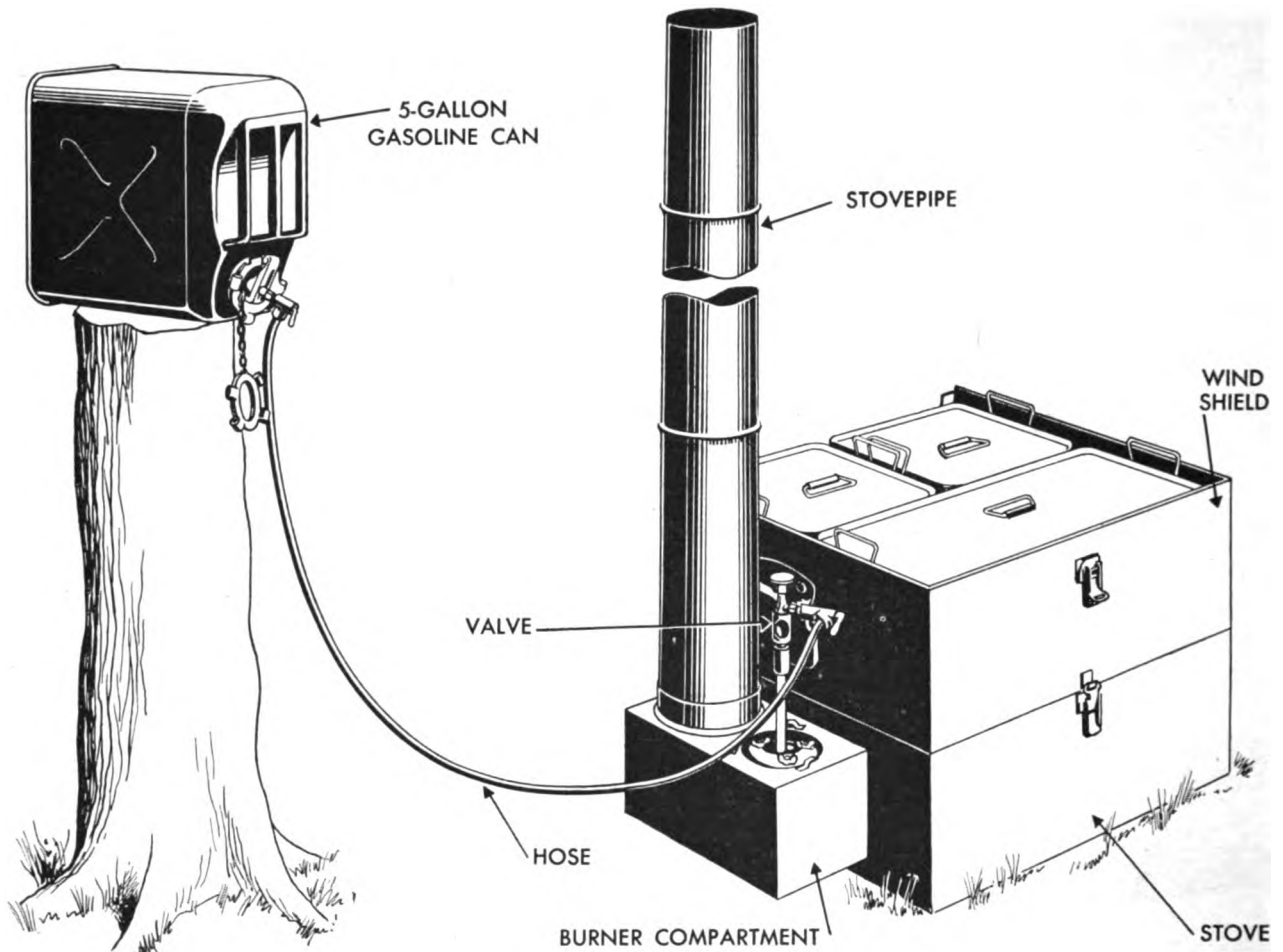

Figure 21. Outfit, cooking, small detachment (64-O-270). Fuel can is placed at higher level than stove to provide gravity-feed.
a. The small detachment cooking outfit (stock No. 64-O-270), (see fig. 21), is designed for the use of isolated detachments of troops numbering from 15 to 40. The unit, which is light and compact, may be easily carried in any vehicle. So that 2 men may transport the unit by packboard, it is split into 2 sections, each weighing approximately 40 pounds. A third man carries the 5-gal-